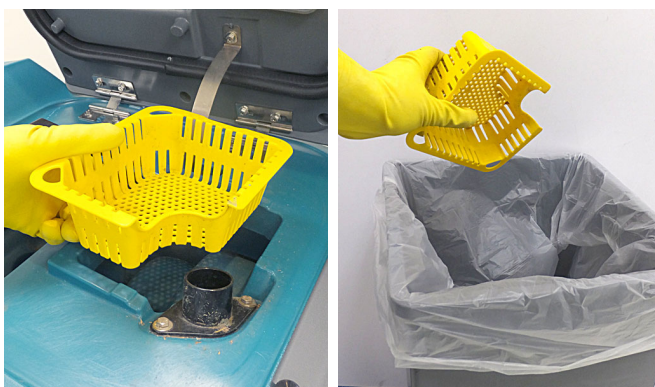

FIG. 84
2. Remove the debris tray and empty (Figure 84).